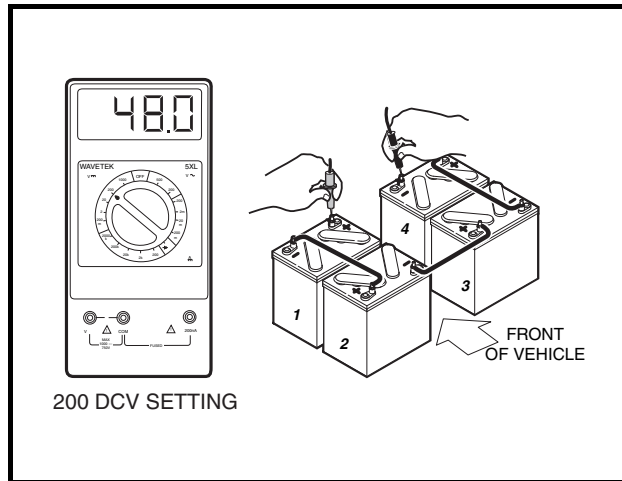
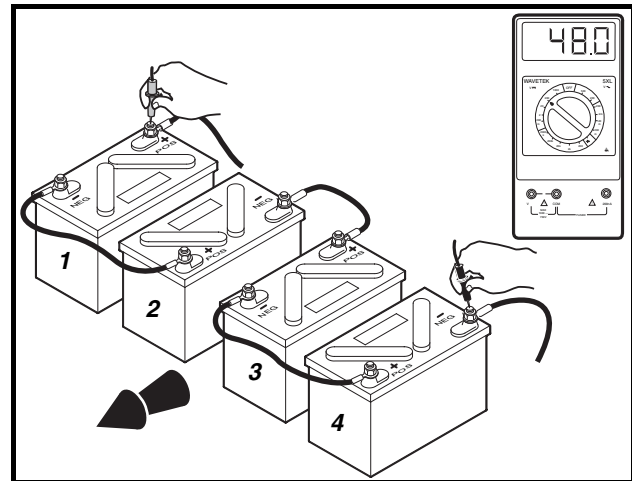

Figure 3-14 Battery Voltage Test – Style A Battery Configuration
Figure 3-15 Battery Voltage Test – Style B Battery Configuration
- 4.3. **Style A and B 4 x 12-Volt Precedent only:** With a multimeter set to 200 volts DC, measure the voltage of the battery pack between the positive (+) post of battery no. 1 and the negative (-) post of battery no. 4 (**Figure 3-14, Page 3-18 or Figure 3-15, Page 3-18**).